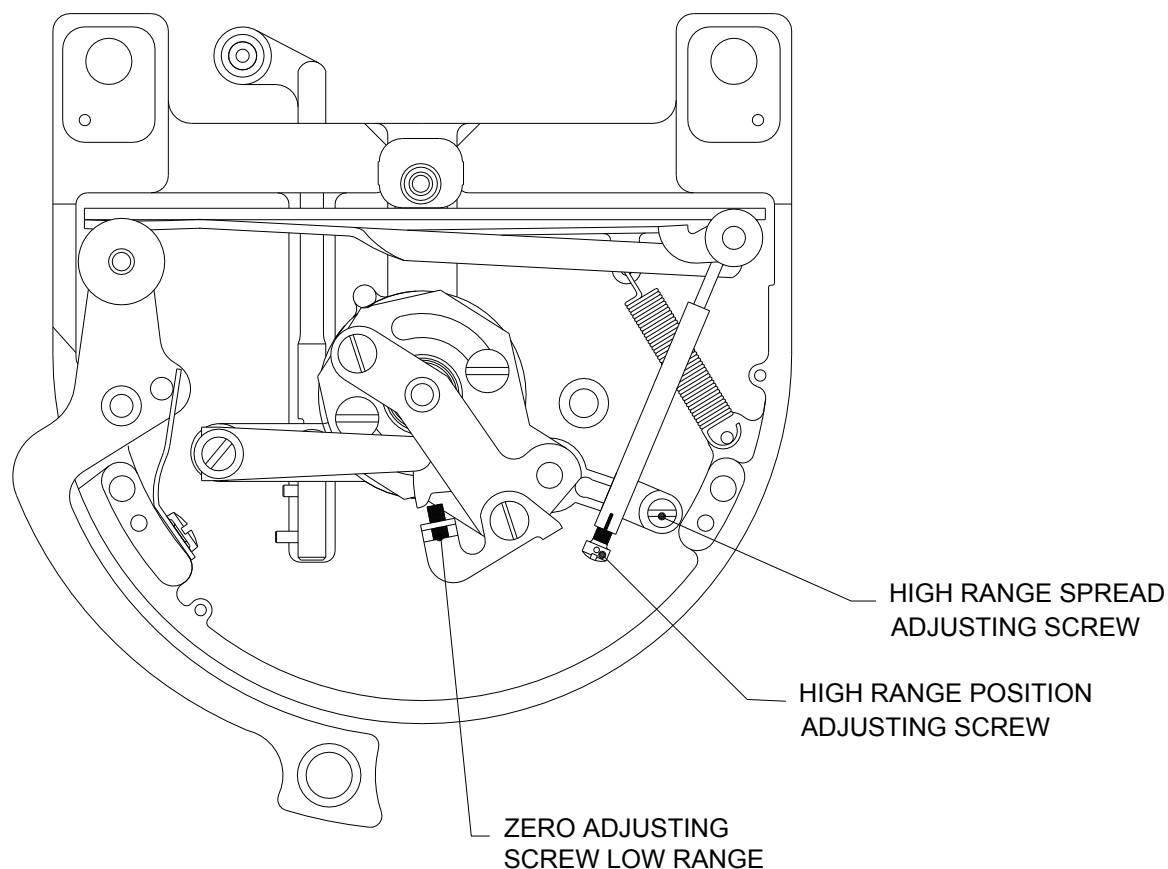

Figure 7-Adjustment High and Low Screw
- b. Turn Zero Adjusting Screw Low Range (See Figure7) until it just contacts segment of movement assembly.
- f. If the range spread is incorrect, that is, the high reading is too high and the low reading is too low, it may be adjusted by adjusting the position of sleeve assembly (See Figure 7) where it attaches to the slotted arm of the movement. Loosen High Range Spread Adjusting Screw. With High Range Spread Adjusting Screw loose the sleeve assembly can be moved in toward the movement if the range spread is too small (i.e., if high reading is low and low reading is high), or away from the movement if the range spread is too great (i.e., the high is too high and the low reading too low). This is a delicate adjustment requiring only a small amount of movement and should be made carefully. When the adjustment has been made and the range spread is within limits, tighten High Range Spread Adjusting Screw. (See Figure 7)